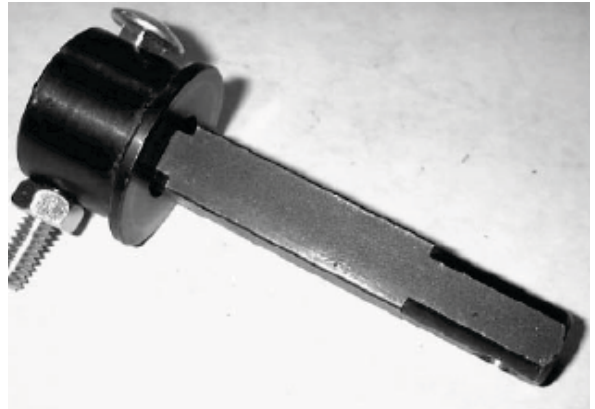

Figure 5
- Using a carriage bolt, attach the square shaft to a tubing adapter (Figure 5).